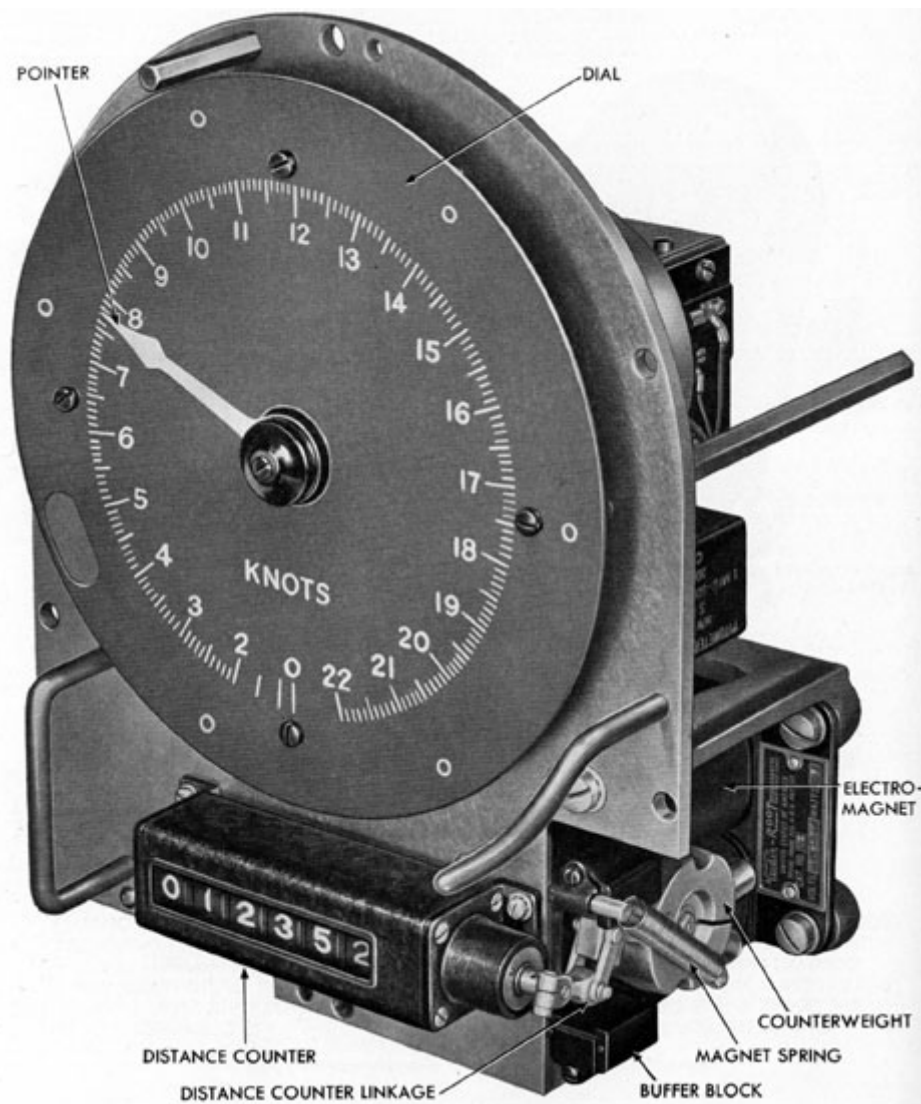

Figure 18-13. Speed and distance repeater removed from case.
**18B5. Speed and distance repeater.** (See Figure 18-13.) The self-synchronous repeater in the speed and distance repeater is electrically